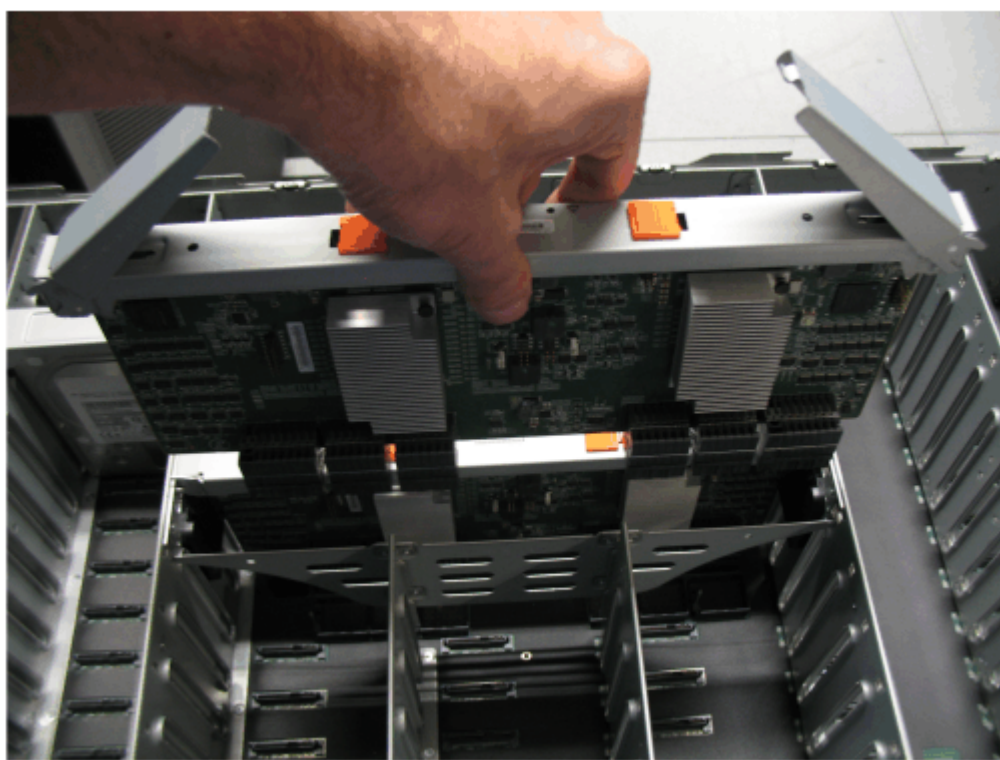

Figure 93. Remove the secondary expander module
4. Lift the secondary expander module carefully out of the enclosure, as shown in Figure 93 on page 91.